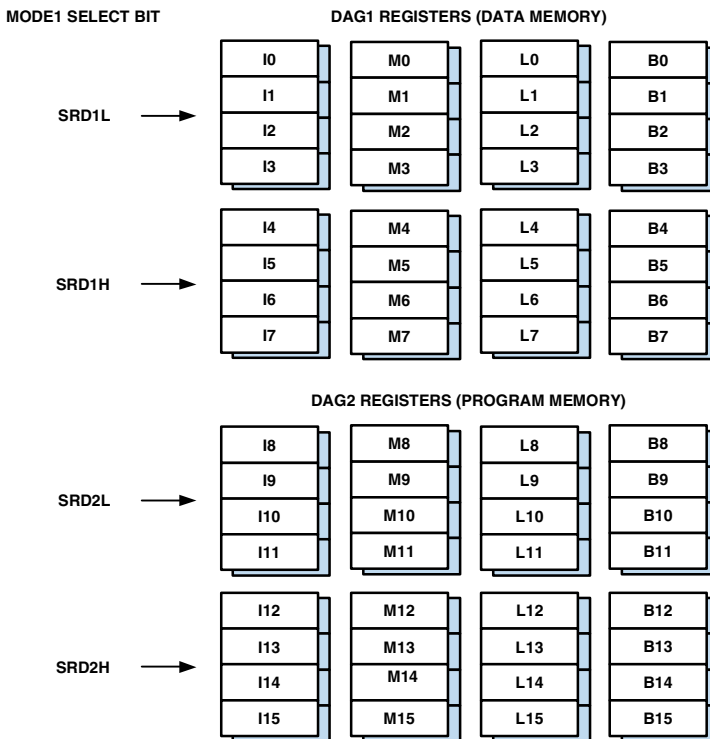

Figure 4-2. Data Address Generator Primary and Alternate Registers
Bits in the `MODE1` register can activate alternate register sets within the DAGs: the lower half of DAG1 (I, M, L, B0-3), the upper half of DAG1 (I, M, L, B4-7), the lower half of DAG2 (I, M, L, B8-11), and the upper half of DAG2 (I, M, L, B12-15). Figure 4-2 shows the DAGs' primary and alternate register sets.
Modify (M) registers can work with any index (I) register in the same DAG (DAG1 or DAG2). For a list of I and M registers and their related DAGs, see Figure 4-2 on page 4-7.